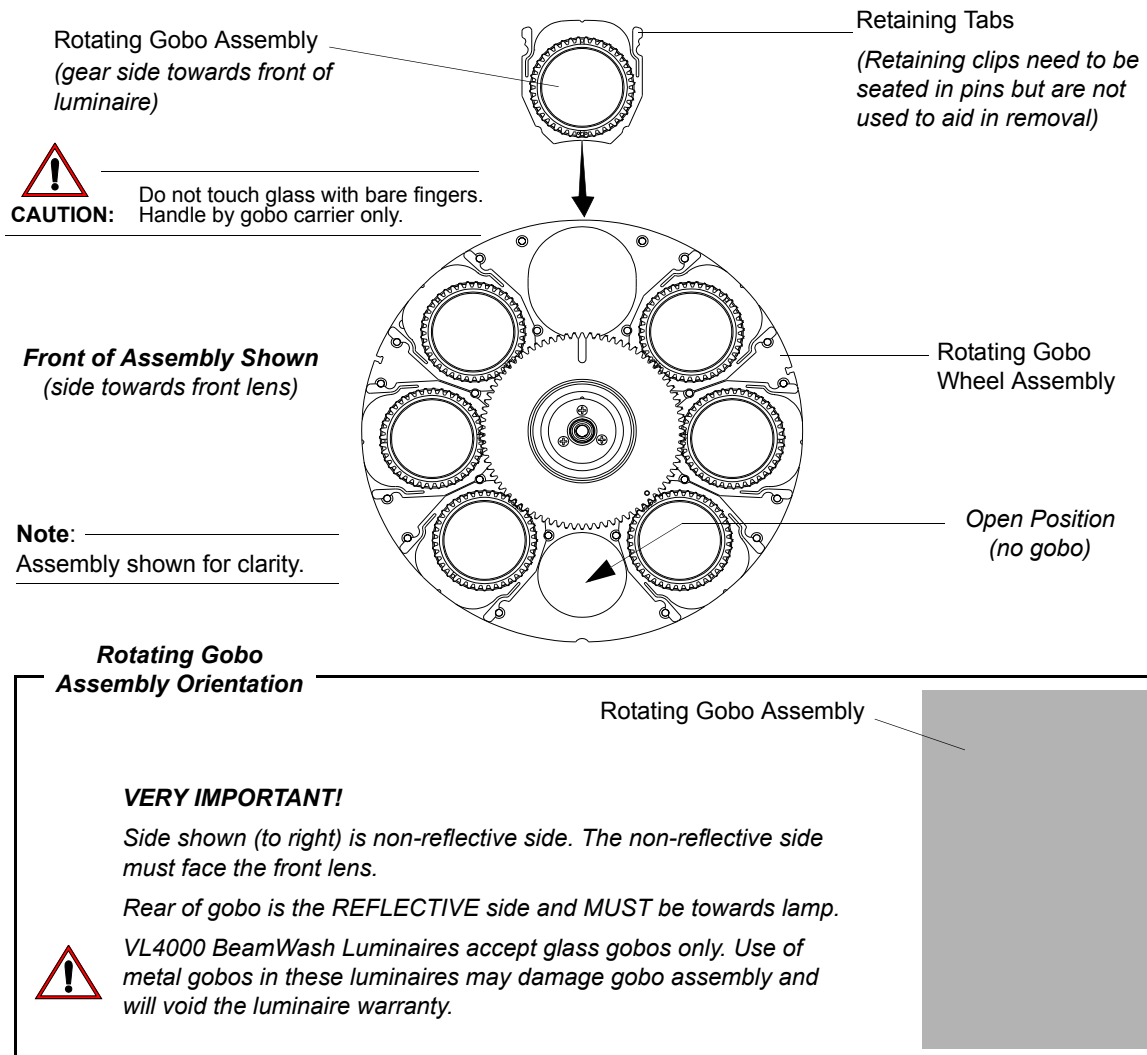

Figure A-9: Rotating Gobo Wheel - Gobo Installation
- Step 7. After ensuring main gear slot and gobo assembly timing marks are properly aligned (as described in Step 7, install replacement rotating gobo assembly into gobo position. Note orientation of rotating gobo assembly as indicated in Figure A-9.